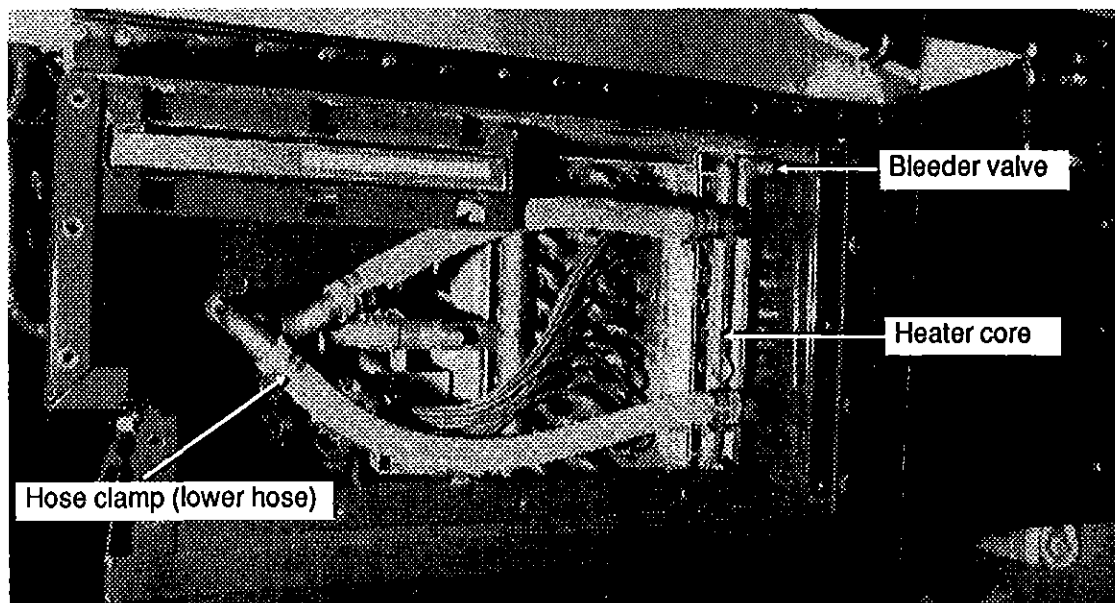

FIG. 24 - HVAC unit
3. Remove the thirteen (13) bolts and washers securing the panel to the HVAC unit (see fig. 24).
5. Open bleeder valve on upper section of heater core (see fig. 24).
6. The HVAC unit is provided with two (2) heater cores; thus, remove panel at other extremity of unit, then repeat previous steps to drain the other heater core.
1. Refer to figures 24 and 2625 to locate bleed valves.
**NOTE:** Each main HVAC unit is provided with 2 heater cores which operate independently from each other. Consequently, it is important to bleed air from the two (2) heater cores.